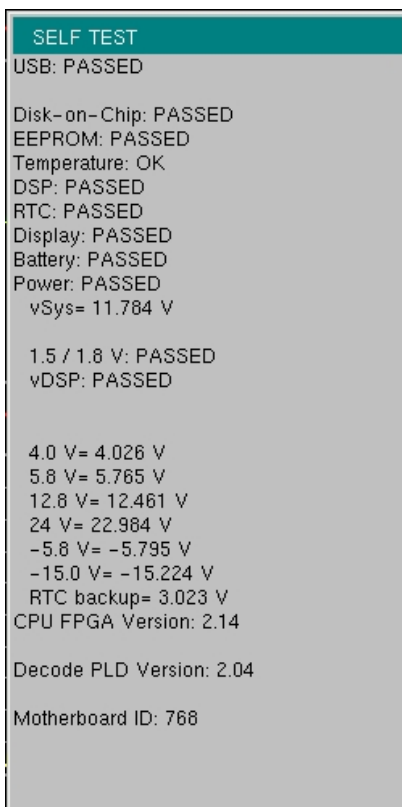

Figure B-1. Self Test Results Window
To run self test, press **Shift** and **System** (8) and then Self Test. Refer to the results window in Figure B-1, which summarizes the status of several key functions in the instrument that are common to all applications (note that your instrument display may differ from this image). If any subtest shows FAILED, then check that the battery level is adequate for operation, or check that the temperature is within acceptable limits. Reset to factory defaults with either Factory Defaults (**Esc+On**), or Master Reset (**System+On**).